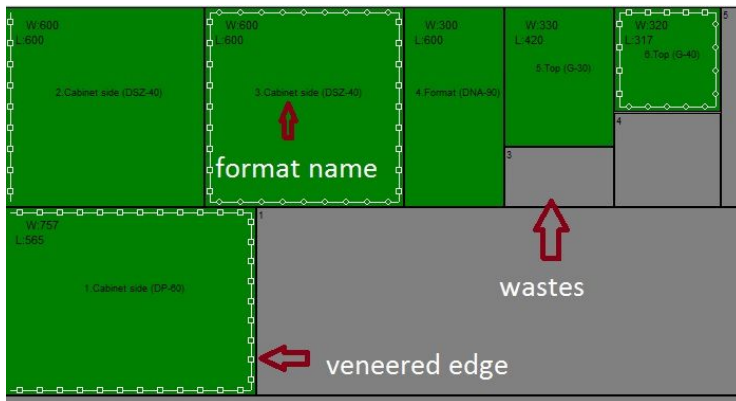

Fig. 80 – an example of 'View' options operation
- **'Show names of formats'** - displays names of arranged formats (Fig. 80);
- **'Show wastes'** - displays edges of produced wastes (Fig. 80);